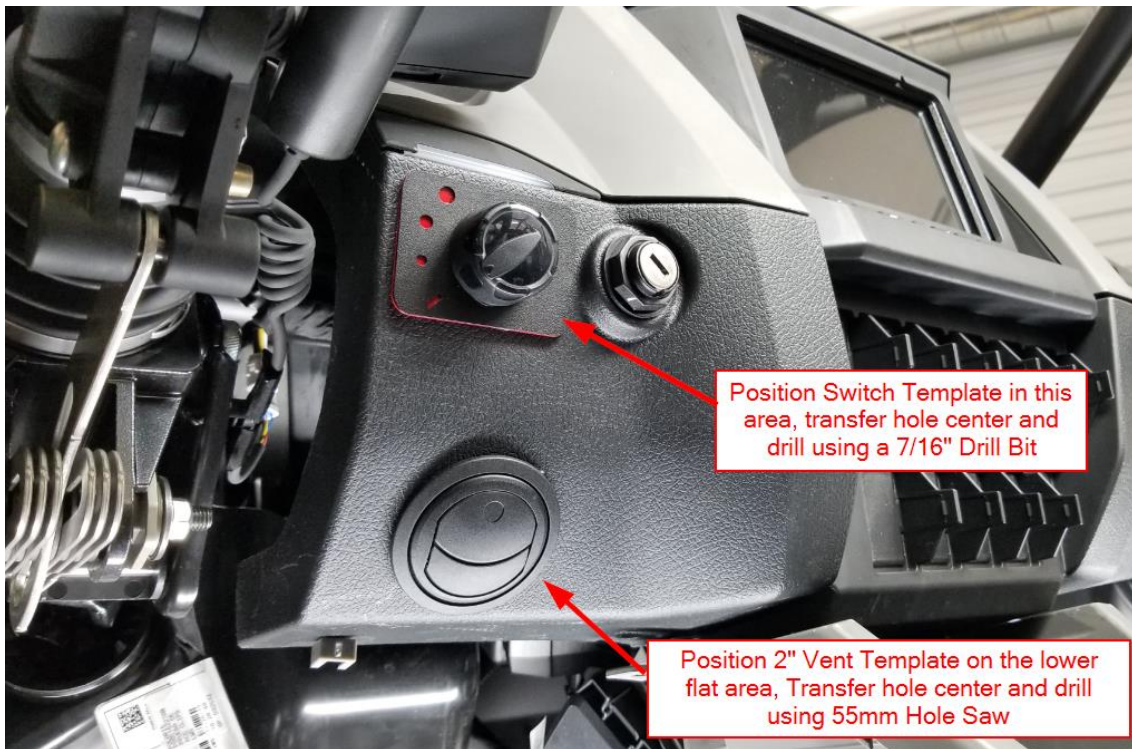

Figure 2
- b. Position the Switch Location Template and the 2" Vent Template in the areas shown in Figure 2. Transfer the hole centers of each. Drill the Switch mounting hole location with a 7/16" drill bit. Drill the 2" Vent with a 54mm Hole Saw and Pilot Bit.